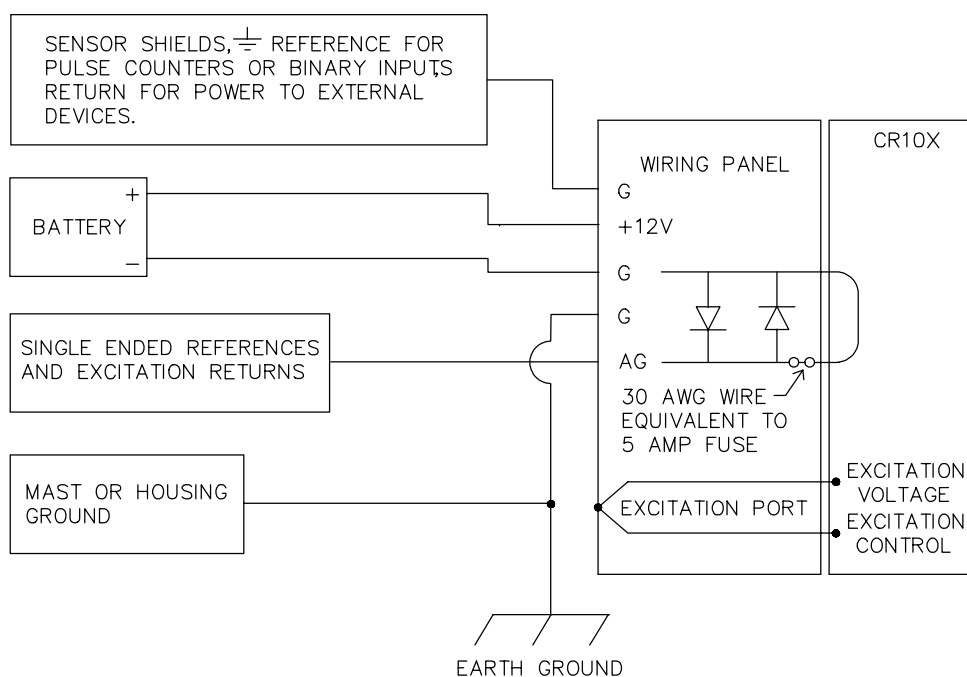

FIGURE 14.7-1. Wiring Panel Grounding Diagram and Excitation Control
Every terminal on the Wiring Panel, with the exception of ground (G) and analog ground (AG) terminals are spark gapped. The spark gaps will fire at 150 V and the current will be diverted to ground. As shown in Figure 14.7-1, the power ground and analog ground are independent lines until joined inside the CR10X. The fuse shown in Figure 14.7-1 (located on the underside of the Wiring Panel) is a 30 AWG wire, equivalent to a conventional 5 Amp fuse. It will blow if a sufficient transient comes in on the G or AG lines, at which time the current is
The Wiring Panel provides transient protection, improves excitation voltage accuracy, and makes convenient, positive connections to power, sensors, and peripherals (refer to Figure 14.7-1). Wiring Panel transient protection is discussed in Section 14.7.
required to compensate for line losses between the CR10X and the excitation port on the Wiring Panel (see Figure 14.7-1).